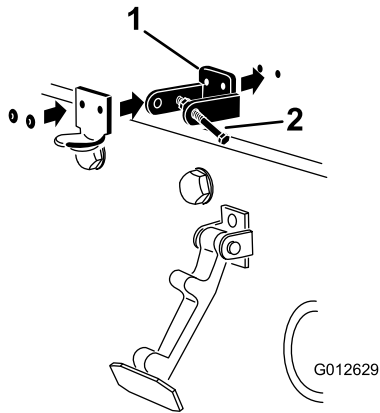

Figure 33
3. While aligning the mounting holes, position the CE lock bracket and the hood-latch bracket onto the hood. The lock bracket must be against the hood (Figure 33). Do not remove the bolt and nut assembly from the lock bracket arm.
5. Rivet the brackets and the washers to the hood (Figure 33).